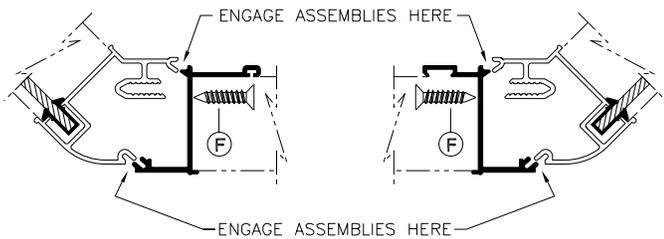

Fig. 4b
Place Door Frame Assembly (C) between the Side Panels (B). Starting with the pivot side first . . . engage the length of the Panel Assembly with the Door Assembly as shown in figure 4b. Secure Door Frame Pivot Post to the Side Panel with three (3) #8 x 3/4" flat head screws (F). Repeat procedure for the Strike Post side.